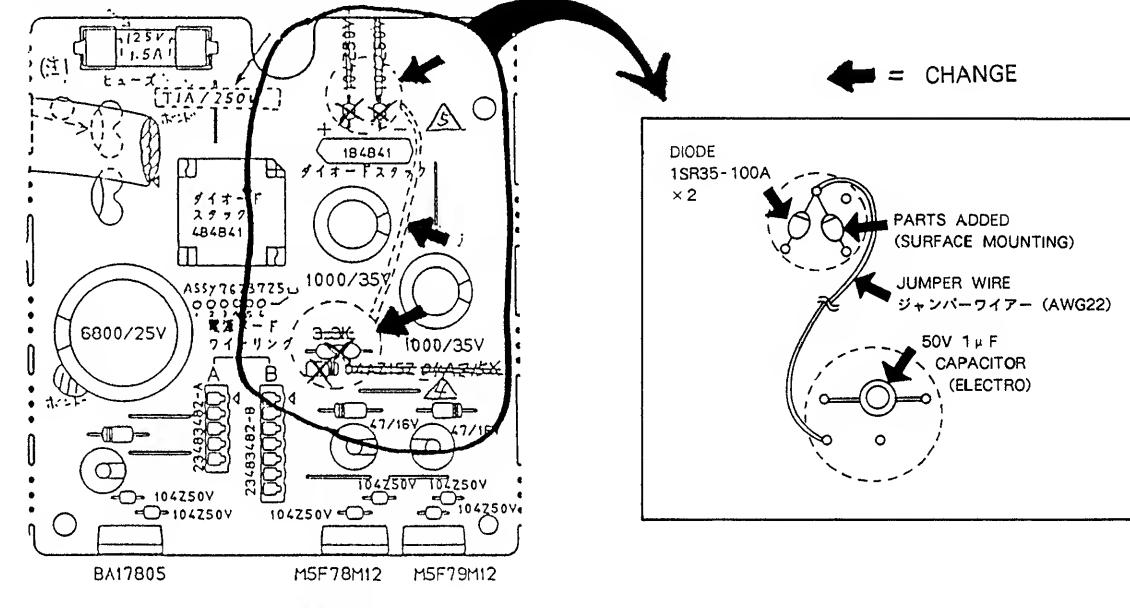
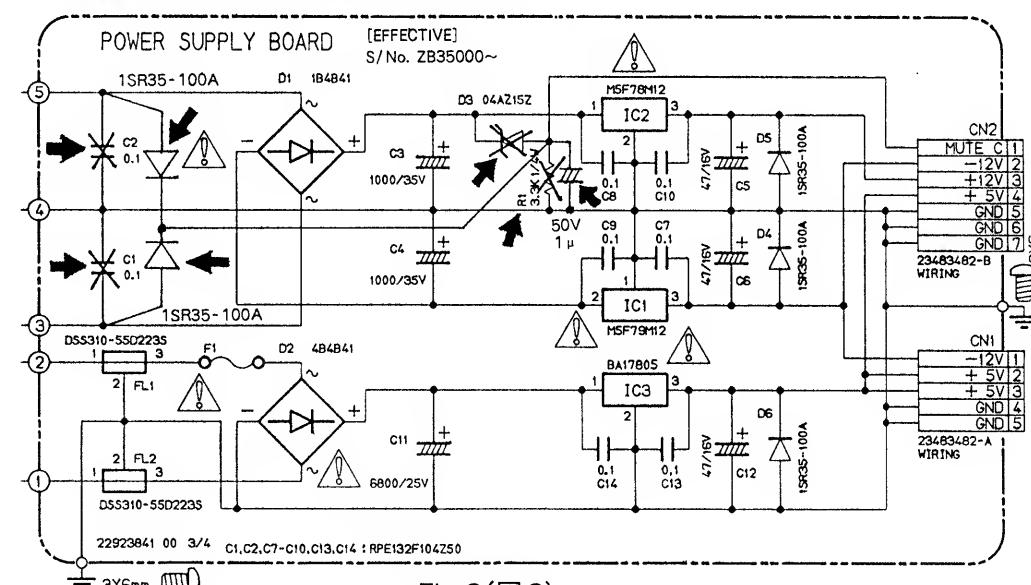

Fig.1(図1)
Fig.2(図2)
Muting circuit on power supply board has been as shown in Fig.1 and Fig.2.
電源基板 (POWER SUPPLY BOARD : pcb No.2292384100 2/4) の回路変更を行う。(図1 & 2参照)
1. PARTS REMOVED (See Fig.1 and Fig.2)
2. PARTS ADDED (See Fig.1 and Fig.2)